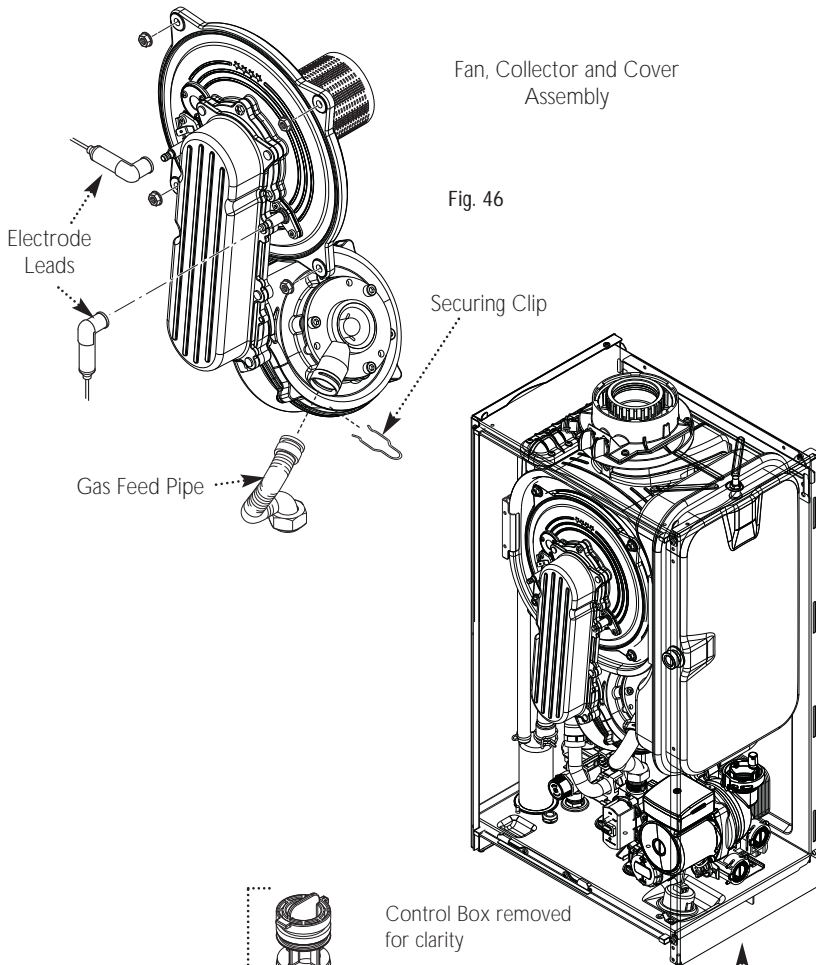

Fig. 46
6. Disconnect the electrode leads, noting their position, and the fan electrical plugs (Fig. 46).
8. Carefully draw the fan, collector and cover assembly forward (Figs. 46).